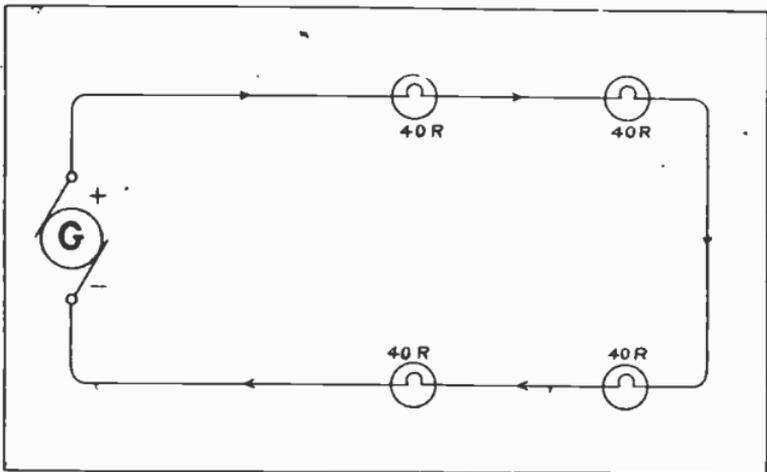

Fig. 25. Four 40-ohm Lamps Connected In Series.
2. The total resistance in ohms of all the parts connected in series is equal to the sum of their separate resistance in ohms. In Fig. 25 we have four lamps in series. Each lamp has a resistance of 40 ohms. Neglecting the very small resistance of the connecting wires, the total resistance of this circuit is 4×40 , or is 160 ohms.